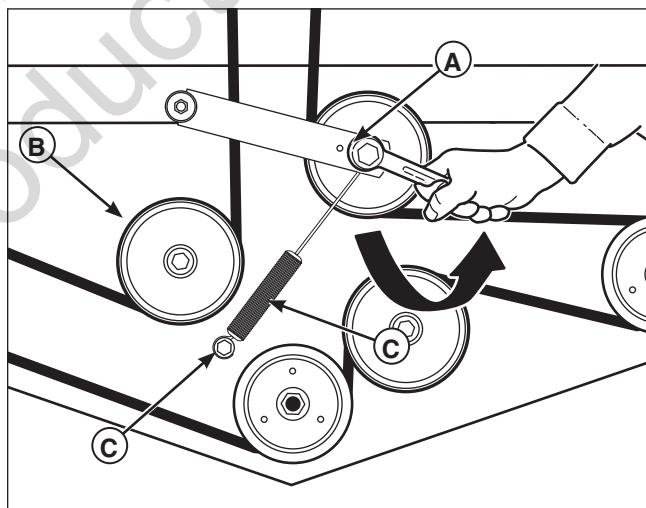

Figure 27. Mower PTO Belt
3. Using a 1/2" breaker bar, place the square end in the square hole located on the end of the idler arm (A, Figure 27). Carefully rotate the breaker bar COUNTER-CLOCKWISE, which will relieve the tension on the belt exerted from the idler arm.